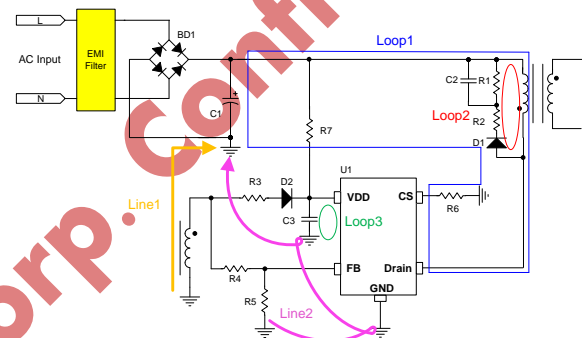
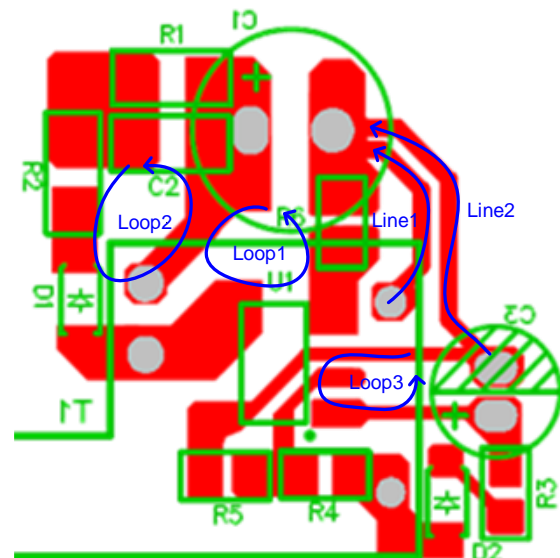

Fig 6
Fig 7
PCB design has a significant impact on the performance of power supply. It is recommended to refer to Figure 6 and Figure 7 when designing primary-side circuit.
4. The ground node of auxiliary winging should be connected directly to the negative node of the bus capacitor (Line1 as shown in Fig.6)
5. VDD capacitor C3 and FB pull-down resistor R5 should be connected directly to the IC GND pin firstly, and then connects them to the negative node of the bus capacitor with a single point (Line2 as shown in Fig.6)